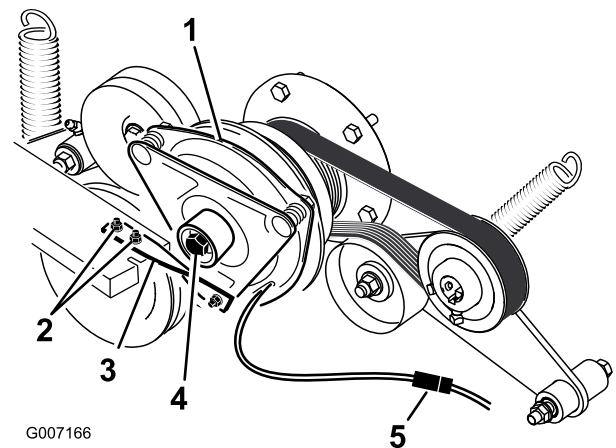

Figure 57
6. Unplug the electric connection for the clutch (Figure 57).
7. Remove the two bolts holding the rubber clutch strap to the mower frame (Figure 57).
8. Remove the center bolt holding the clutch to the engine shaft and remove the clutch and key (Figure 57).
15. While holding the crank shaft at the back of the machine, install the center bolt and torque it to 50 ft-lbs (68 N-m) (Figure 57).
16. Install the rubber clutch strap to the mower frame with the two previously removed bolts and nuts (Figure 57).
18. Plug in the electric connection for the clutch (Figure 57).